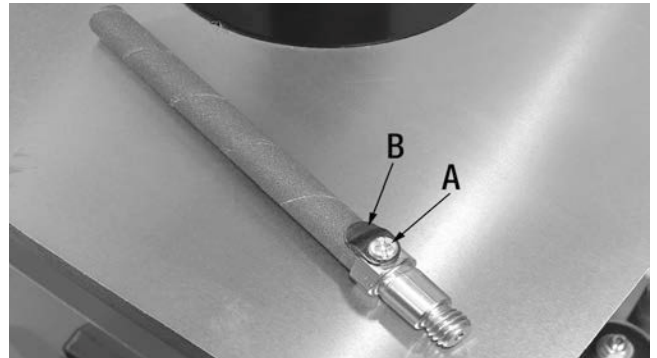

FIGURE 5
1. For 1/4", 1/2", & 5/8" spindles, loosen the screw (A) Fig.5 on the bracket clamp (B) at the bottom of the spindle.
2. Slide the corresponding sanding sleeve fully onto the spindle. Note: the sanding sleeve must slide under the bracket clamp (B) Fig.5 as shown. Re-tighten the screw (A) on the bracket clamp (B) to secure the sanding sleeve. Pull on the sanding sleeve to make sure it is properly secured to the spindle.